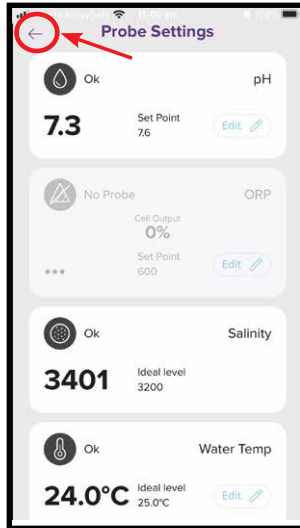

Figure 8.56
- Now simply press the back arrow button at the top left corner to return to the home screen of the Henden Smart Chlorinator App (ref figure 8.56).